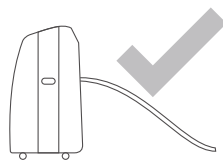
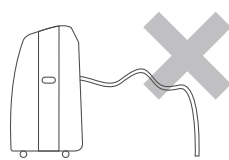

Fig. 24
Fig. 25
**NOTE:** Please make sure that the height and section of the Drain Hose is not higher than the drain outlet. If higher, draining of the water tank may not be successful (► Fig. 24 and ► Fig. 25).